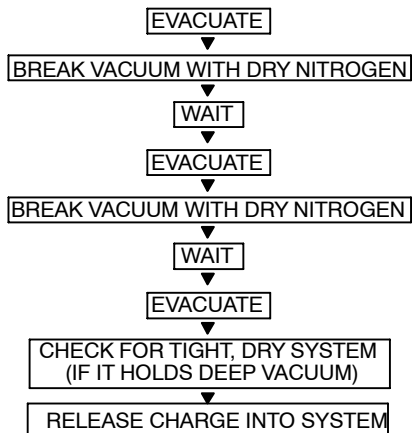

Fig. 20 – Triple Evacuation Method
The triple evacuation method should only be used when vacuum pump is only capable of pumping down to 28 in. of mercury vacuum and system does not contain any liquid water. Refer to Fig. 20 and proceed as follows:
5. Repeat this procedure as indicated in Fig. 20. System will then be free of any contaminants and water vapor.